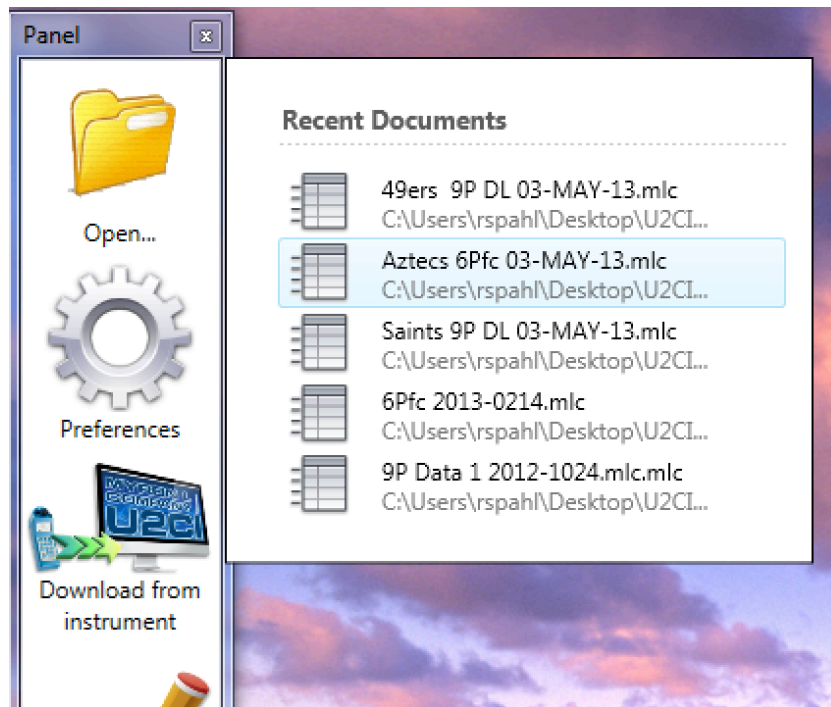

Figure 39
- A drop down menu will appear that includes the most recently opened .mlc files. (Figure 39)